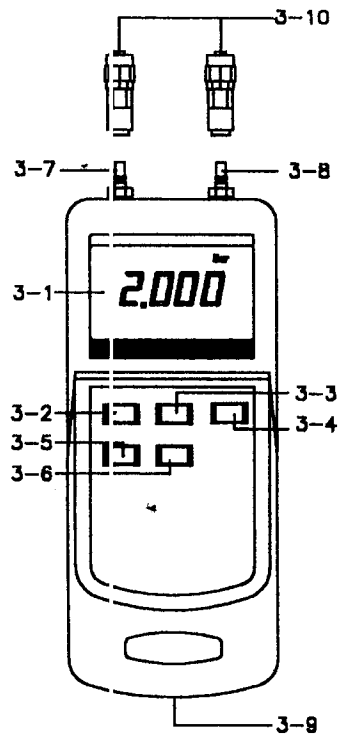

Fig. 1
- 1) Power on the meter by pressing the " Power Off/On Button " (3-2, Fig. 1).
- 2) Select the desired temperature units (mbar, psi, Kg/cm², mm Hg, inch Hg, meter H₂O, inch H₂O, Atmosphere) by pushing the " Unit Button " (3-6, Fig. 1).
Adjust the display reading to zero value by pushing the " Zero Button " (3-4, Fig. 1)
- 4) Install the measuring pipe to " Plug/quick coupler " (3-10, Fig. 1).
Connecting the pipe along the " Plug " (3-10, Fig. 1) to
- a. " P1 input socket " (3-7, Fig. 1) only
- b. " P2 input socket " (3-8, Fig. 1) only
- * During the measurement, pressing the " Hold Button " (3-3, Fig. 1) will freeze the measured value & the LCD will show " HOLD " symbol.
- * The DATA RECORD function displays the maximum and minimum readings. To start the DATA RECORD function, press the " MAX./MIN. Button " (3-5, Fig. 1) once. " REC " symbol will appear on the LCD display.
- (a) Press the " MAX./MIN. Button " (3-5, Fig. 1) once, the " Max " symbol along with the maximum value will appear on the display.
To de-activate this feature, Select the memory record function during measurement, by pressing the " MAX./MIN. Button " (3-5, Fig. 1).
- 2) Slide the Battery Cover (3-9, Fig. 1) away from the instrument and remove the battery.